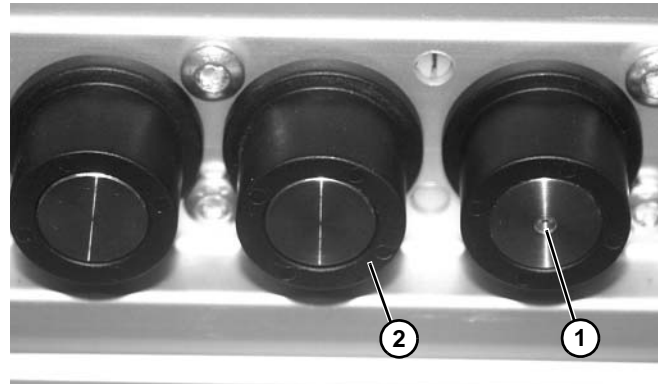

Figure 20
Keep strict attention to roller type. To differentiate and correctly install the two different style rollers: Driven rollers have a dot (Figure 20, item 1) in the center, and slip rollers (Figure 20, item 2) do not.